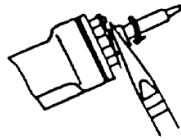

FIG. 2
3. Unscrew the barrel nut assembly (fig. 2 & 3).